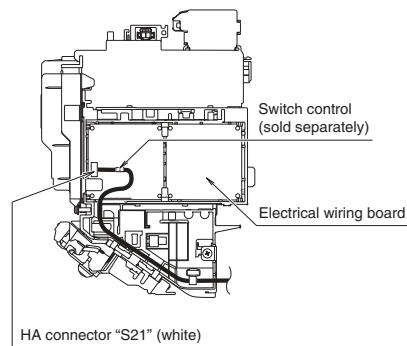

Fig.7
- Wire HA connection code as shown in the figure. (See Fig.7)